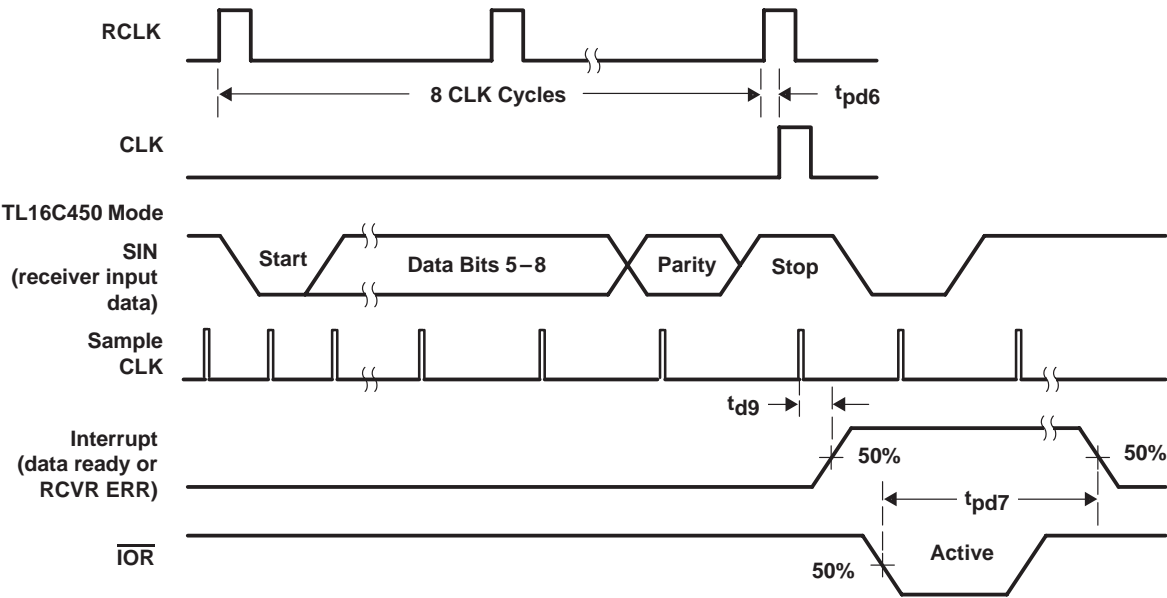

Figure 9. Receiver Timing Waveforms
**receiver switching characteristics over recommended ranges of operating free-air temperature and supply voltage (see Note 13 and Figures 9 through 13)**